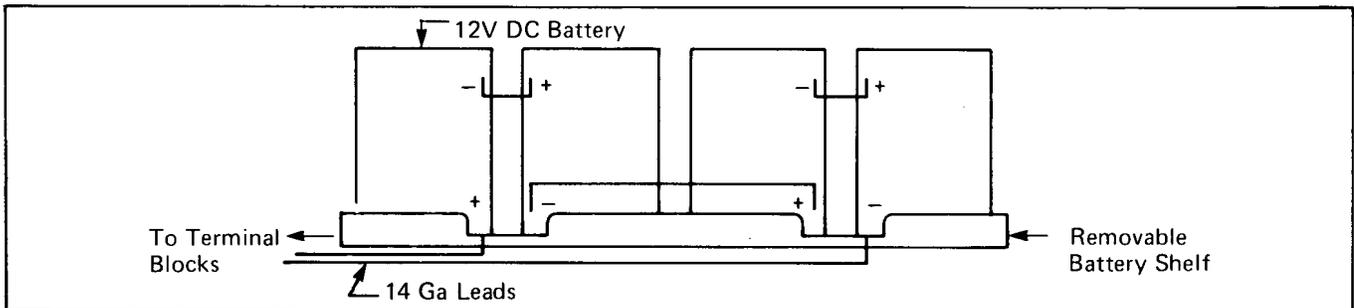
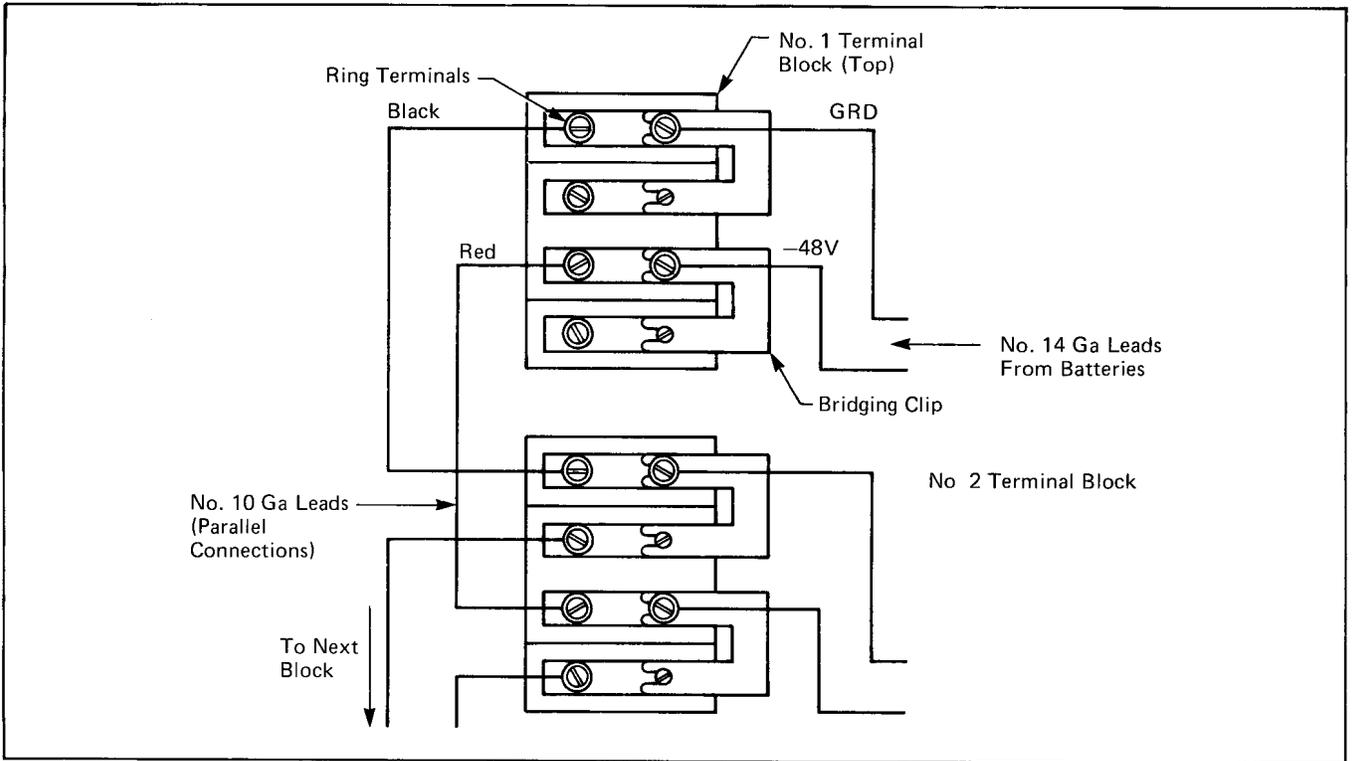

Fig. 11 - Battery Mounting and Wiring Details
Fig. 12 - Battery Terminal Wiring
2.13 Individual battery shelves may be mounted or removed as necessary to accommodate the 12-V gelled-electrolyte batteries used for backup power of  $-48\text{ V dc}$ . Up to 32 batteries can be installed in the cabinet as shown in Fig. 11. Batteries are wired in series groups of four, which in turn are wired in parallel through terminal blocks located on the dividing panel. Stranded 14-gauge copper wire is used for the series wiring, whereas 10-gauge stranded copper wire is used for the parallel wiring (Fig. 12).